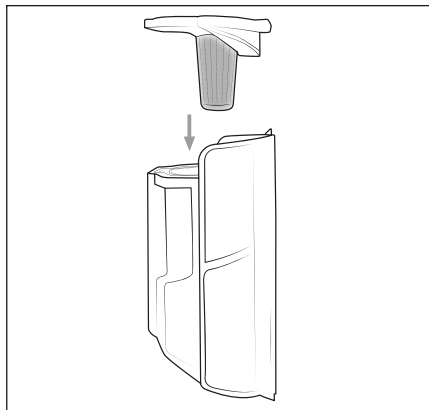

Fig. 19
- 6) Insert the stainless steel filter **6** into the dust container **7** and push it all the way down until it sits firmly in the dust container **7** (see Fig. 19).